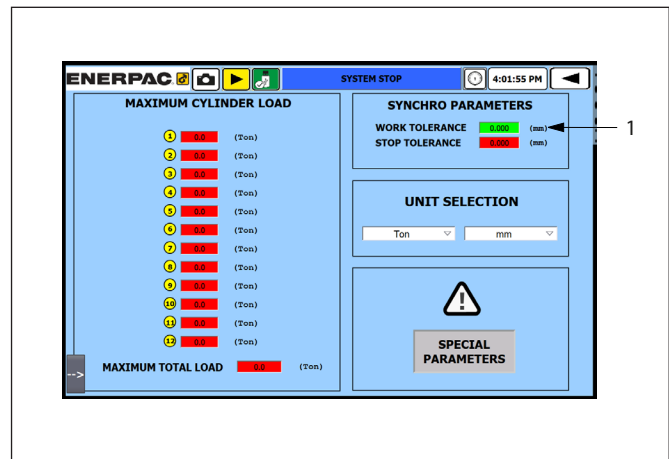

Figure 81: EVOP Work Parameters Screen (single acting cylinders)
When working with single acting cylinders, this screen will also show the value “work tolerance” due to the fact that the synchronous movement is controlled by the solenoid valves instead of frequency inverters, only in lowering movements (see Figure 81):
1. Cylinder type: This button allows the operator to choose between single acting and double acting cylinders. When the operator chooses single acting cylinders, the value “work tolerance” will appear in work parameters screen (Figure 81).